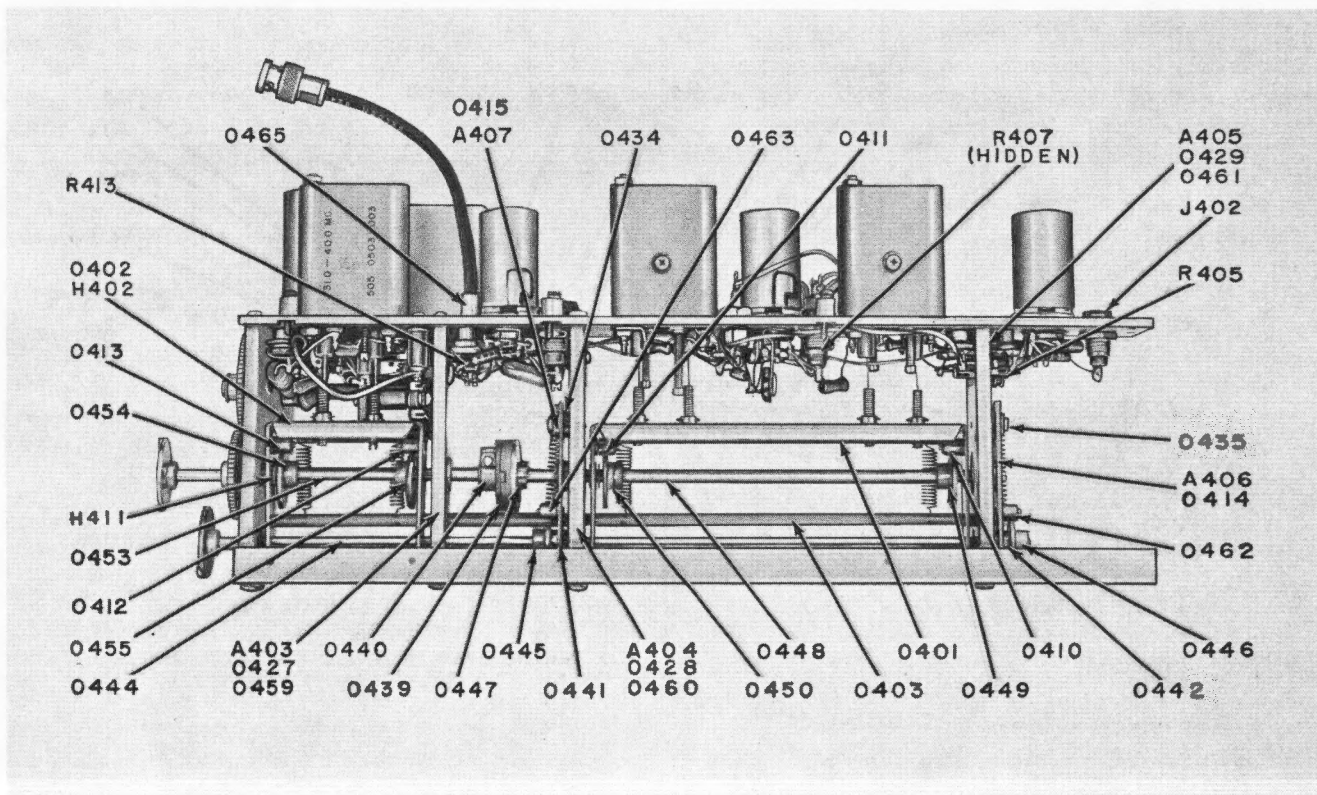

Figure 6-8. Radio Receiver R-278B/GR, First I-F Amplifier, Side View
Step 2. Connect the R-F Signal Generator output lead to J402 (figure 6-8).